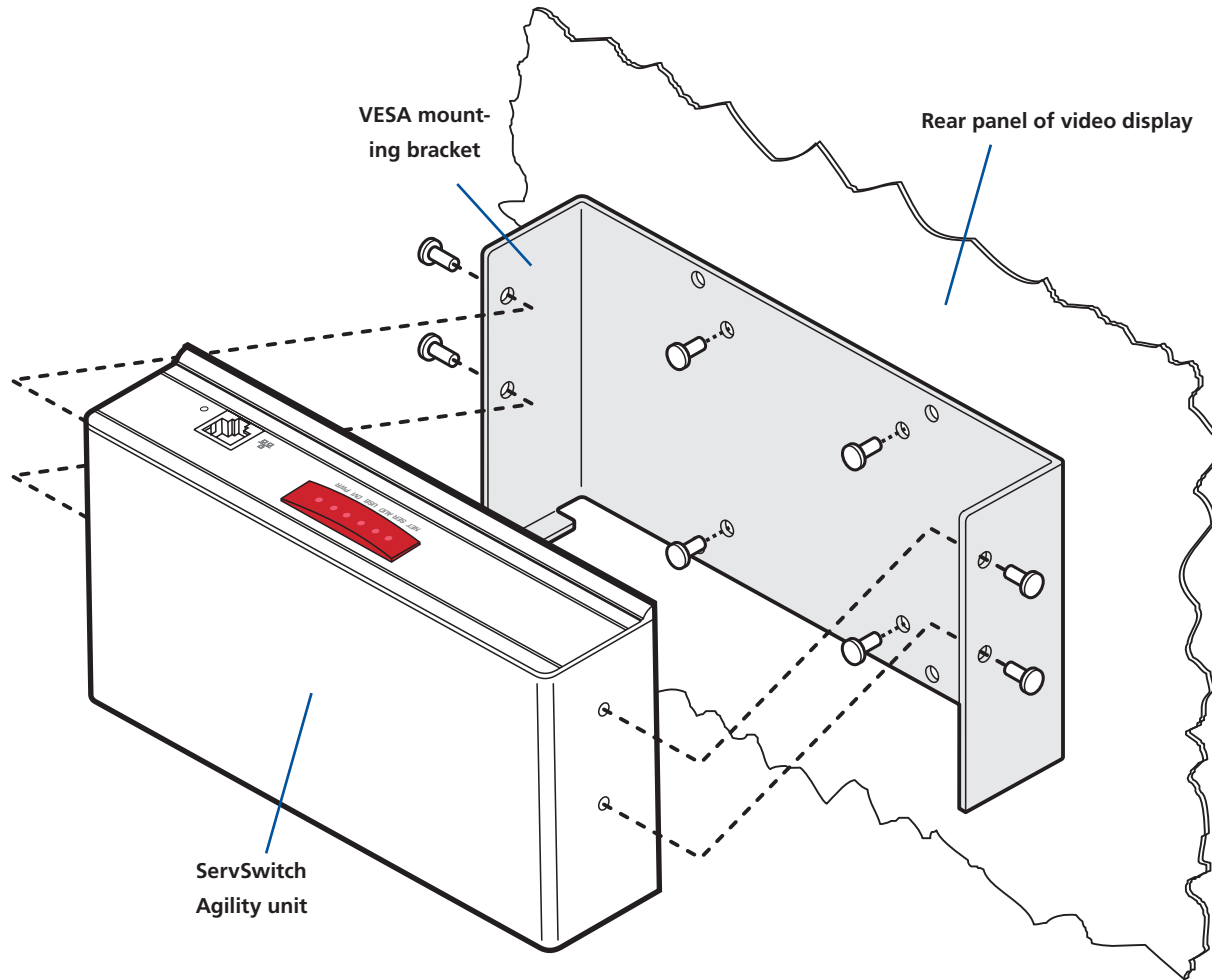

Figure G-2. VESA mounting bracket.
- 1 Orientate the bracket against the rear of the video display so that its small folded-in tabs are lowermost. See Figure G-2.